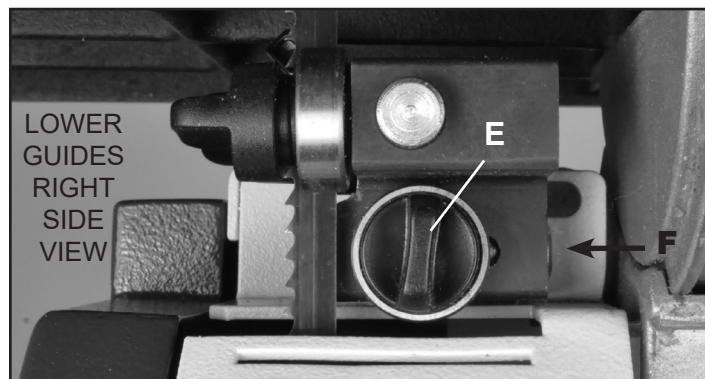

FIGURE 27
4. Adjust the rear bearing guide to be just clear of the back of the saw blade. Release the guide's Locking Handle (#49) (FIG. 27, E) and move the rear guide towards the blade with the locking handle or by pushing the end of the Rear Guide Shaft (#53, F). Tighten the handle when done.